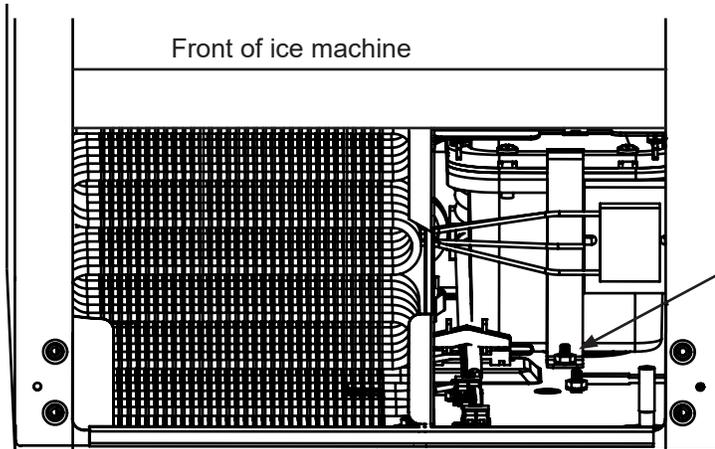

Figure 36
3. Remove the front and rear drain pump brackets. See Figures 36, 36a and 37.